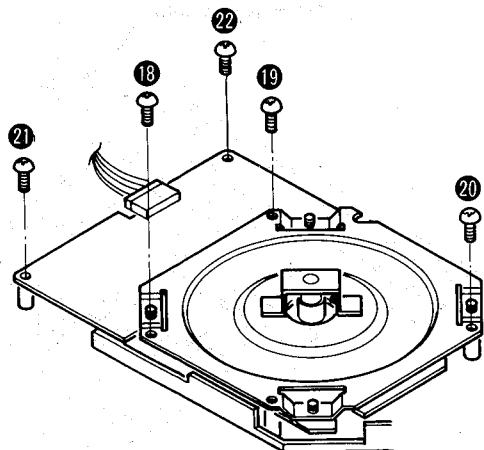

Fig. 8
2. Remove the 3 stator frame setscrews (Fig. 8 : ⑱ ~ ⑲) and the 2 drive circuit board setscrews (Fig. 8 : ⑳, ㉑).